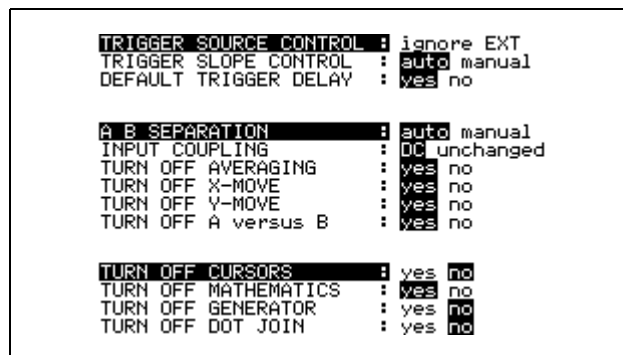

Figure 6-14. Continuous Auto Set Window
- From the User Options menu, press  (MORE OPTIONS) and use   to highlight AUTO SET. Press  to open the window (see Figure 6-14).